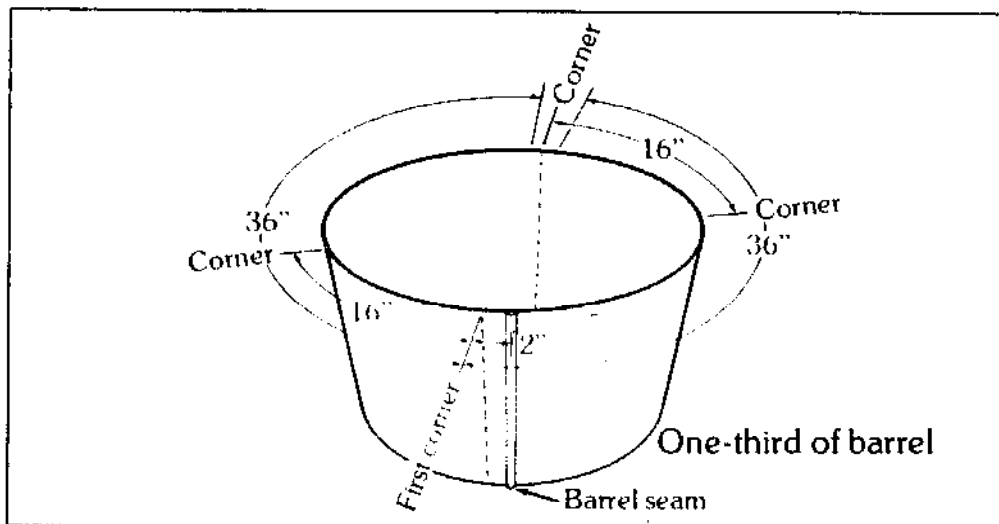

Figure 13.9—Marking the corners of the one-third barrel to form into a rectangle.
4. Form the stove body. The one-third barrel will be your stove body. Hammer off the rough edges and file or cut away uneven or jagged projections. Form into a rectangle as shown in Figure 13.9: Mark a line parallel to the barrel seam and 2 inches away from it. This is your first corner. From this line measure clockwise around the drum 36 inches and make a mark. Then measure 36 inches the